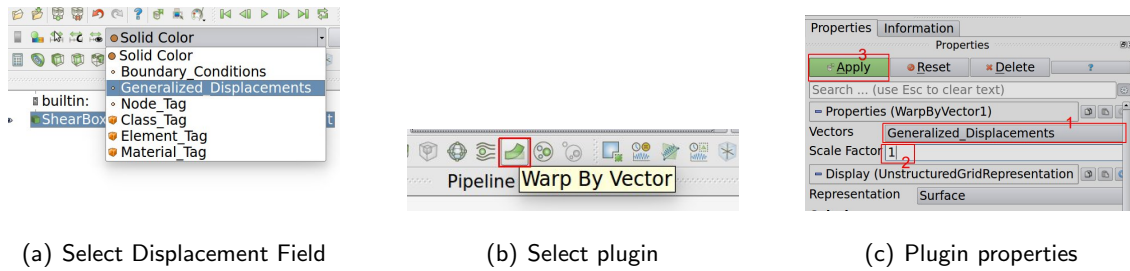
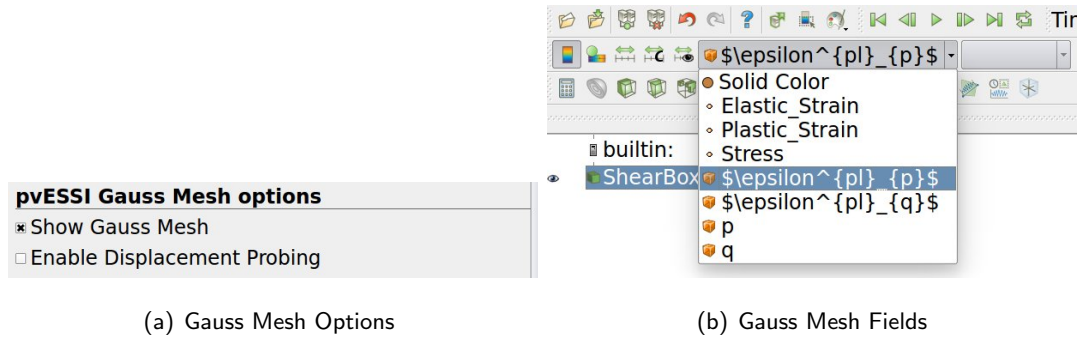
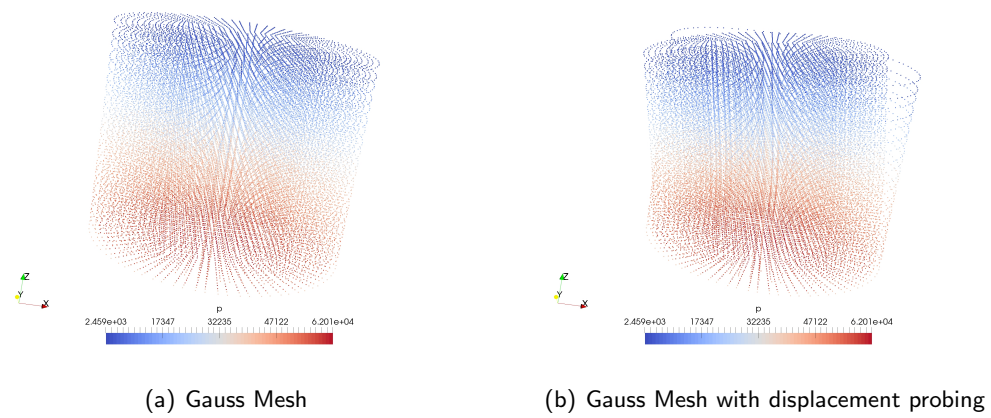

Figure 1.10: Deformation Visualization.
Figure 1.20: Visualizing Gauss mesh and it's fields.
Figure 1.21: Visualization of mean effective stress p invariant in Gauss mesh.
2. **Vector Field visualization :** This is achieved using 'Wrap by Vector' plugin available in ParaView. Figure 1.10 and Figure 1.11 shows steps to visualize deformed mesh.
3. Apply warp by vector plugin and follow the steps as shown in Figure 1.10
It must be noted that the Enable Displacement Probing options only works when Show Gauss Mesh mode is enabled. Figure 1.20 shows the steps to visualize Gauss mesh.
The various fields that can be visualized in Gauss mesh mode as shown in Figure 1.20 are shown below.
3. Enable Gauss mesh as shown in Figure 1.20(a). Select Mean Effective Stress p [Pa]. The resulting visualization is shown in Figure 1.21(a).
4. Enable displacement probing as shown in Figure 1.20(a). Apply a warp by vector filter and select the vector displacement as shown in Figure 1.10. Now select again the Mean Effective Stress p [Pa] field option to visualize. The resulting visualization is shown in Figure 1.21(b).